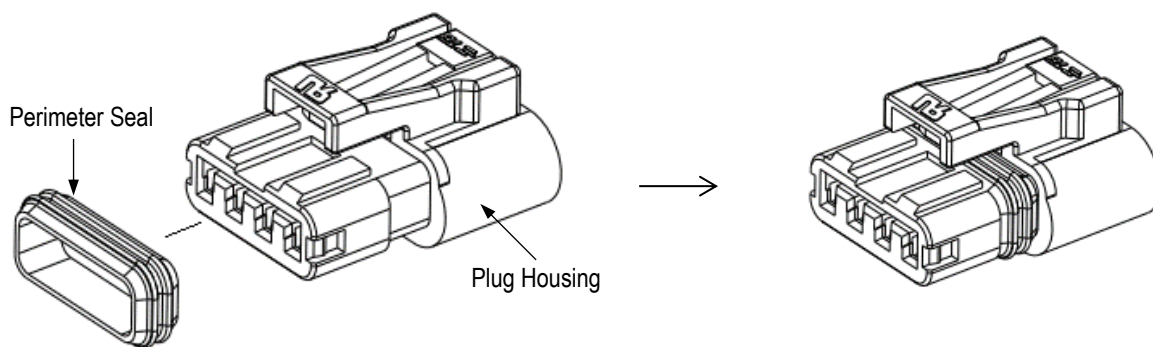

Figure 3
2. Install the perimeter seal onto plug housing. Refer to Figure 3 **Error! Reference source not found.**